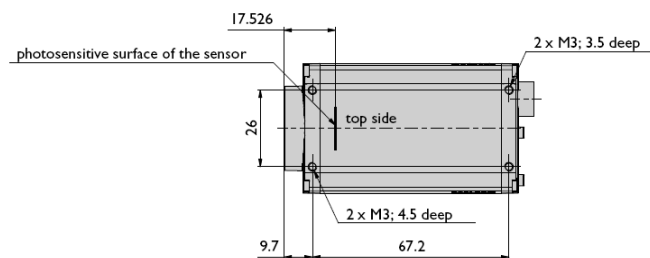

Figure 4: Basler camera sensor position
2. Lens to front of camera distance. Adjust this to the object distance by adding the camera sensor to camera front spacing. The sensor is 17.526 mm back of the camera front – see Fig. 4)